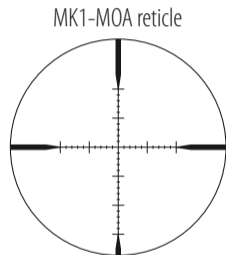
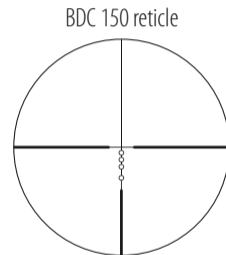

Fig. 3-1
Fig. 3-2
(1) Focusing
- 1 Look through the eyepiece with your eye positioned about 4 in. (10 cm) away from the eyepiece to see the MK1-MOA reticle (Fig. 3-1) or the BDC 150 reticle (Fig. 3-2).